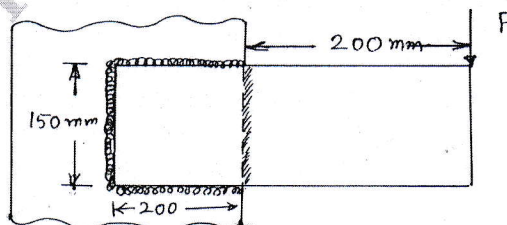

Fig.Q7(b)
- b. A steel plate of 10mm thick is welded to a vertical support using four sides 6mm fillet welds as shown in Fig.Q7(b). Find the safe load P if the permissible shear stress in the weld is 75 N/mm².